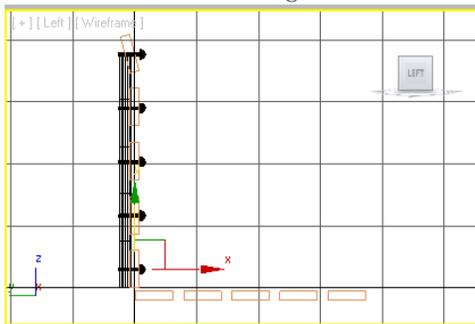

Figure 2-71 Alignment of rivets in the Left viewport
- In the Left viewport, select *rivet001* using the **Select and Move** tool and move the cursor over the vertical axis. Now, create 4 copies of *rivet001*. These copies are automatically named as *rivet002*, *rivet003*, *rivet004*, and *rivet005*. Align them in the Left viewport, refer to Figure 2-71.